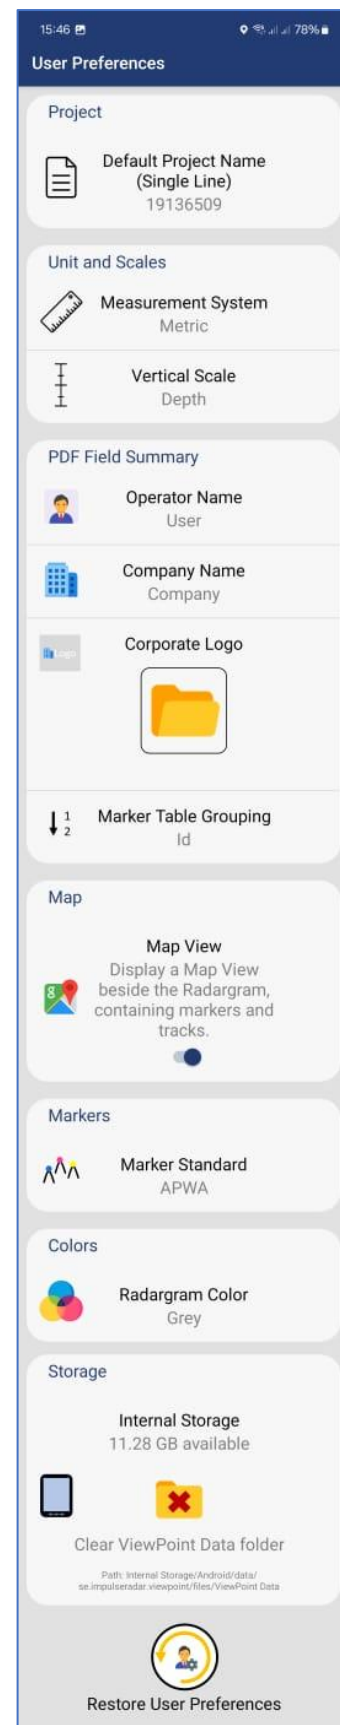

Figure 6 User Preferences
**Default Project Name (Single Line):** By default, the name is the serial number of the GPR unit. The operator can edit/delete and change the name as they wish. Figure 6.